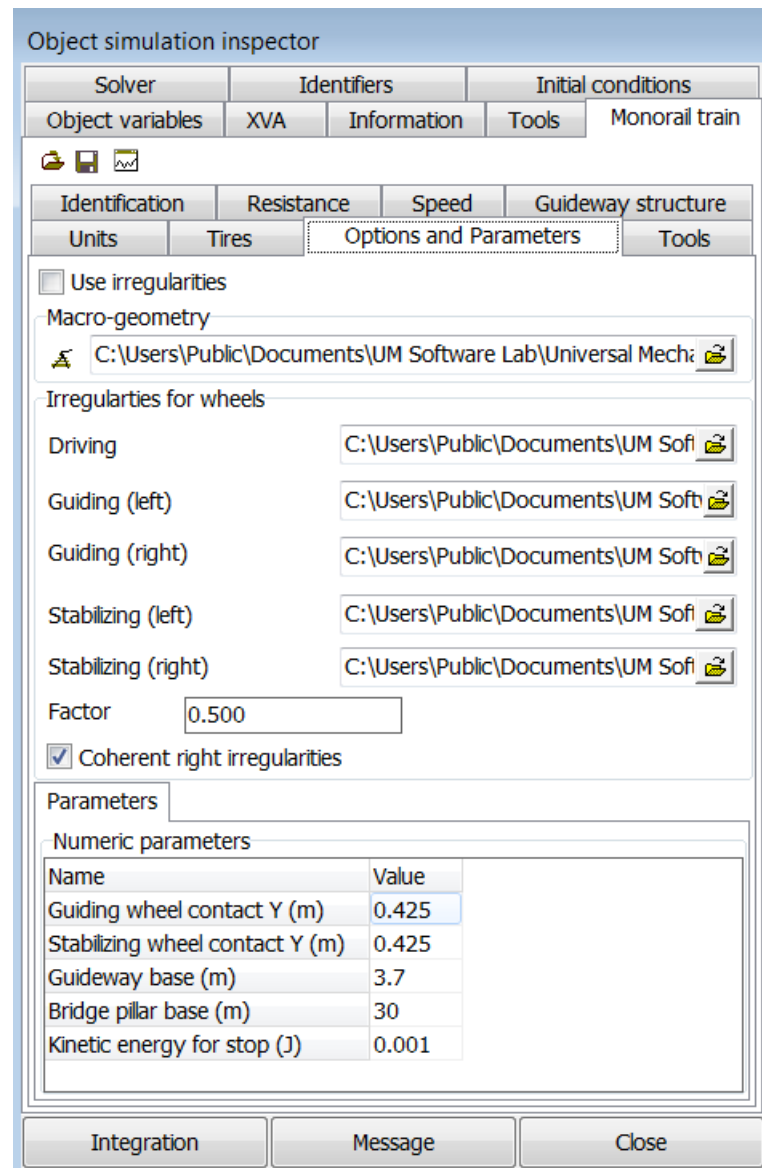

Figure 26.26. Object simulation inspector
The most part of the monorail specific data is entered and modified with the help of the **Monorail train** tab in the **Object simulation inspector**, figure 26.26. Use the **Analysis | Simulation...** menu command of the UM Simulation program to open the inspector. The entered data can be saved in vehicle configuration files *.mrt. Use the buttons on the tab to read/write data.
4. Assign a preliminary created file of macro-geometry by the  button, figure 26.26. Use the  button to view/modify the macro-geometry.
5. If necessary, check the option **Use Irregularities** and assign irregularity files, figure 26.26. The **Factor** increases (<1) or decreases (>1) assigned irregularities.
6. Set the guideway structure geometrical parameters, figure 26.26:
7. Set the **Kinetic energy for stop** parameter (figure 26.26), which is used in equilibrium simulation (speed mode $v=0$).